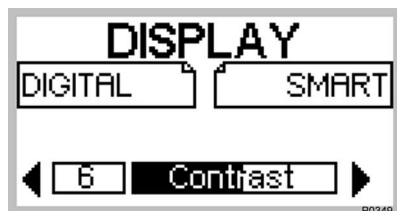

Figure 5.12 Display menu's contrast adjustment screen
- STEP 3 Press the shift button next to the DISPLAY option. To denote selection, the box will fill in with solid black and a new screen with a slider control will appear (Figure 5.12).